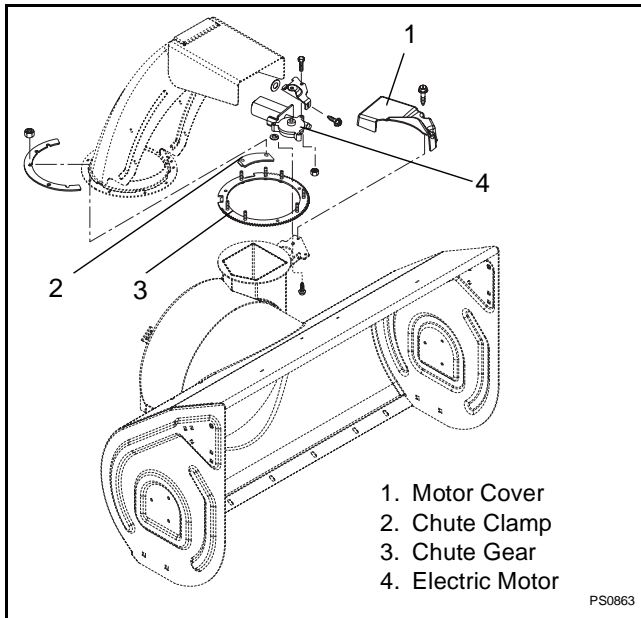

Figure 29
1. Remove chute motor cover (Figure 29).